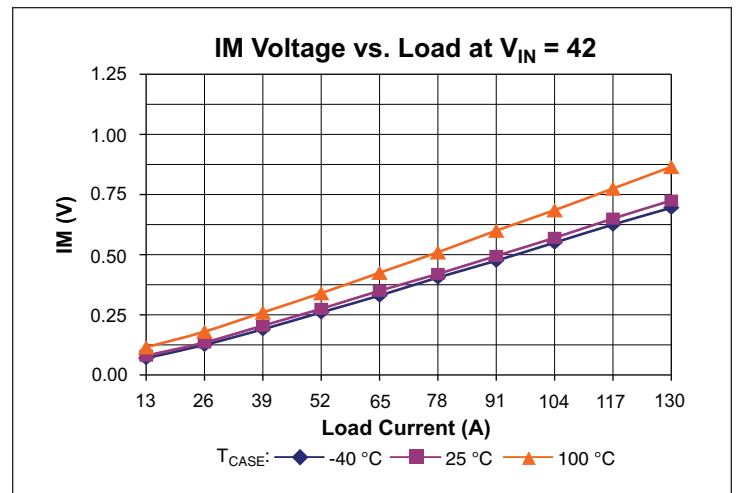

Figure 14 — IM voltage vs. load
Current Monitor (IM) pin provides a voltage proportional to the output current of the VTM module. The nominal voltage will vary between 0.15 V and 0.91 V over the output current range of the VTM module (See Figures 14–16). The accuracy of the IM pin will be within 25% under all line and temperature conditions between 50% and 100% load.